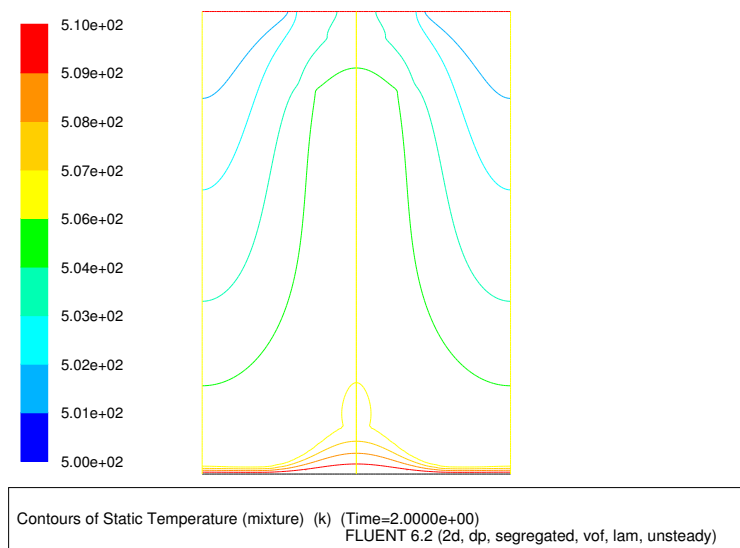

Figure 8: Contours of Static Temperature at $t = 2.0s$
4. Display contours of static temperature after 2000 time steps ($t = 2.0s$). See Figure 8.